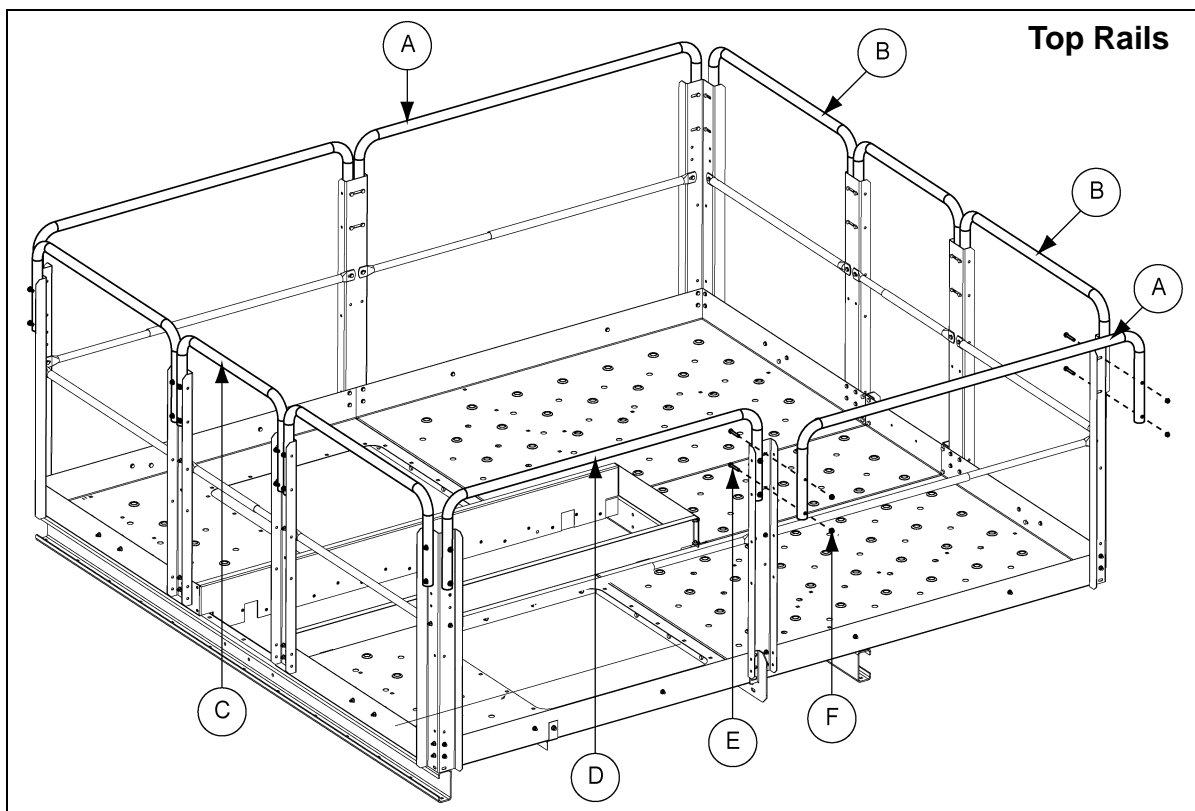

Figure 8U Top Rails
1. Attach two (2) 25.6" in length middle drive handrails (HP1624HMD) along Deck E and the lower head. These are the two (2) shortest sections of upper handrail. Connect using 5/16" nuts (S-10268) and 5/16" x 2" bolts (S-7877). (See Figure 8U.)
2. Attach four (4) hatch handrails (HP1648HHS): one on each side of the middle drive at each end of the platform. Handrails will fit without adjustment. Connect using 5/16" nut (S-10268) and 5/16" x 2" bolts (S-7877). Torque to standard specifications.
3. Two (2) 59.183" far hatch handrails (HP1624HFH) and two (2) 54.65" handrails (HP1624HNNH) opposite each other along Deck A and Deck C using 5/16" x 2" bolts (S-7877) and 5/16" nuts (S-10268).